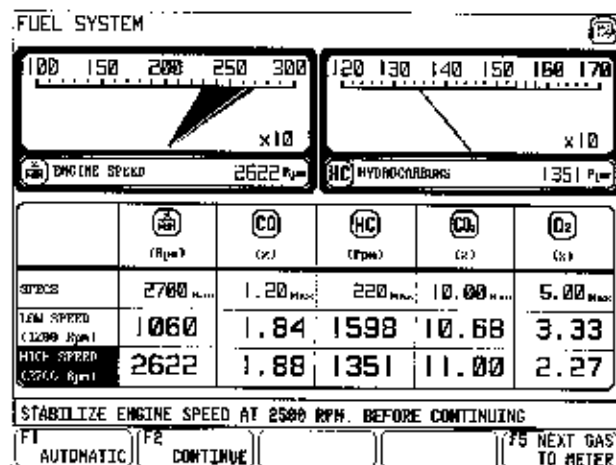

Figure 2-7
5. The "Fuel System" meter screen appears (see Figure 2-7). The Engine Speed Meter on the left side will always be displayed. Press [F5] to toggle right meter through each exhaust gas.